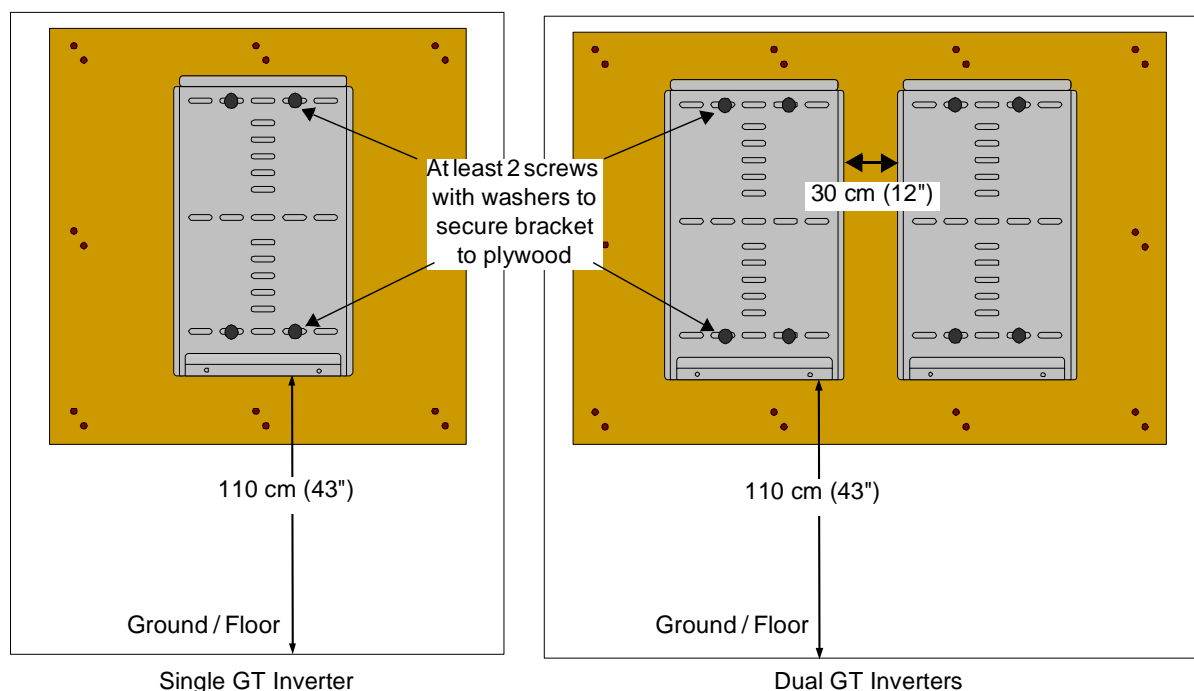

Figure 2-10 Installing the Mounting Bracket using Plywood Support
2. Install backing support material if required. See Figure 2-10.
As shown in Figure 2-10, inverters can be mounted side by side on wallboard or a plywood support. A minimum of 30 cm (12 inches) of clearance between the units is recommended.